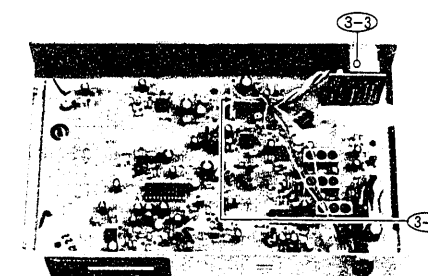

Fig. 3
3. Stereo Indicator Circuit Board Removal (Fig. 3)